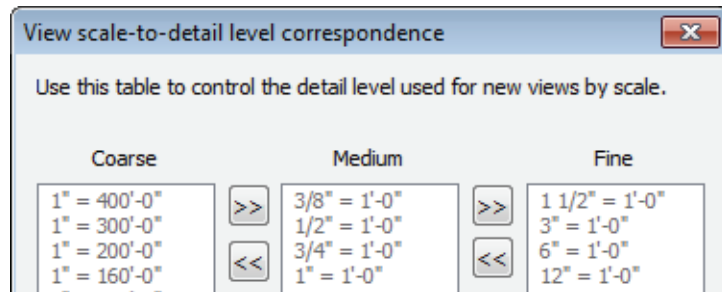

Figure 1–64
- One of the parameters in views is the *Detail Level*. There are three options: **Coarse**, **Medium**, and **Fine**. You can modify the table of scales that are related to the levels. On the *Manage* tab > Project Settings panel, expand  (Additional Settings) and select **Detail Level**. The View scale-to-detail level correspondence dialog box opens, as shown in Figure 1–64.